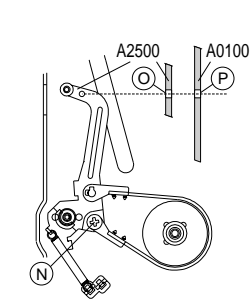

Fig. 17
- Set the brake band adjustment screw (N) (Fig. 17) so that hole (O) of the tension arm (Pos. A2500) lies above hole (P) of the mechanism chassis.